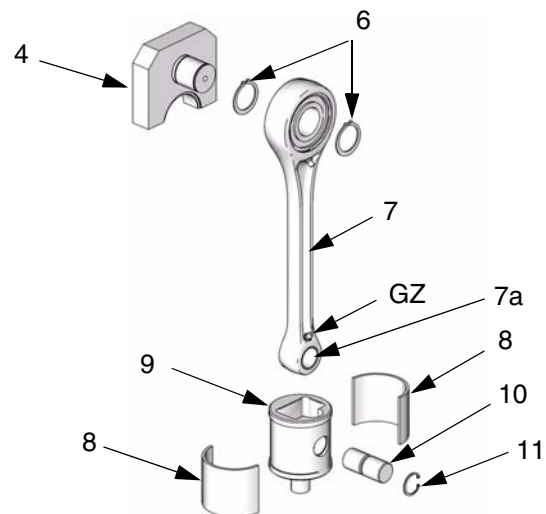

FIG. 4. Drive Linkage Assembly
11. Remove the bearings (8), retaining ring (11), and pin (10). See FIG. 4.
12. Remove and discard the wrist pin bearing (7a) from the connecting rod (7).